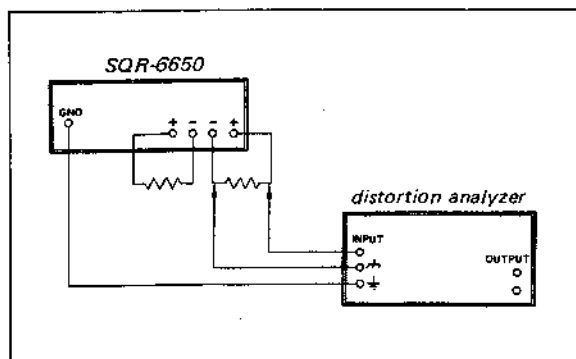

Fig. 3-21
1. **Floating Distortion Analyzer**—If you are using a Hewlett Packard Model 331A, 332A, 333A, or 334A Distortion Analyzer, remove the connecting link between the signal ground (\oplus) and chassis ground (\ominus) terminals, and connect the SQR-6650 and test equipment as shown in Fig. 3-21. Do not connect a scope (or anything else) to the distortion analyzer output.